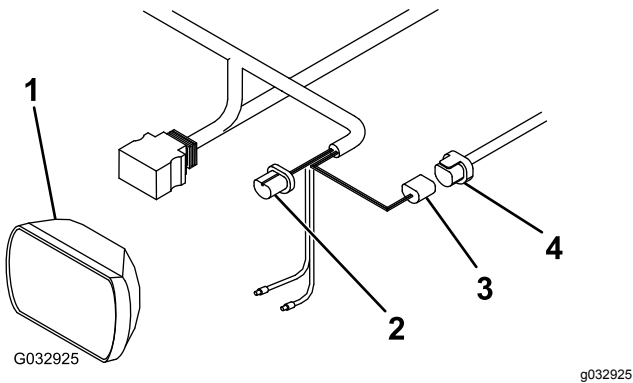

Figure 17
1. Disconnect the wire harness plug from the back of the left vehicle headlight (Figure 17).
2. Connect the blue plug from the long wire harness to the back of the left vehicle headlight (Figure 17).
3. Connect the black plug from the long wire harness to the previously disconnected plug on the vehicle wire harness (Figure 17).